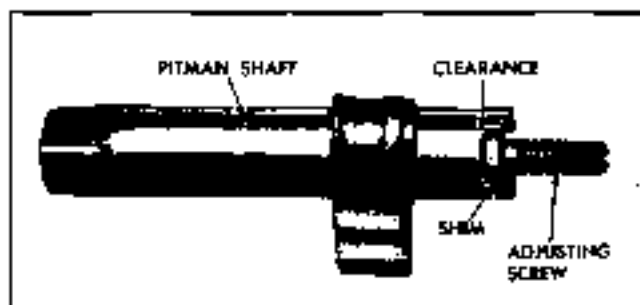

Fig. 9-50 Pitman Shaft and Adjusting Screw
4. Remove adjusting screw from slot in end of pitman shaft. Make sure shim found on adjusting screw remains with screw (Fig. 9-50).
6. Install pitman shaft adjusting screw and selective shim in pitman shaft (Fig. 9-50).